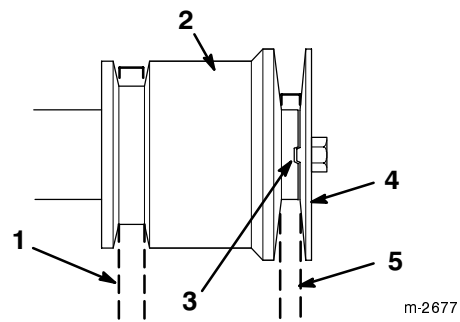

Figure 28
Note: Make sure not to pinch the auger/impeller drive belt (Fig. 28).
- Install the engine pulley sheave, washer, lock washer, and crankshaft screw. Make sure that the indexing rib in the engine pulley sheave aligns with the indexing notch in the engine pulley (Fig. 28).
Note: Make sure that the indexing rib in the engine pulley sheave aligns with the indexing notch in the center engine pulley. Also, make sure not to pinch the drive belt (Fig. 28).